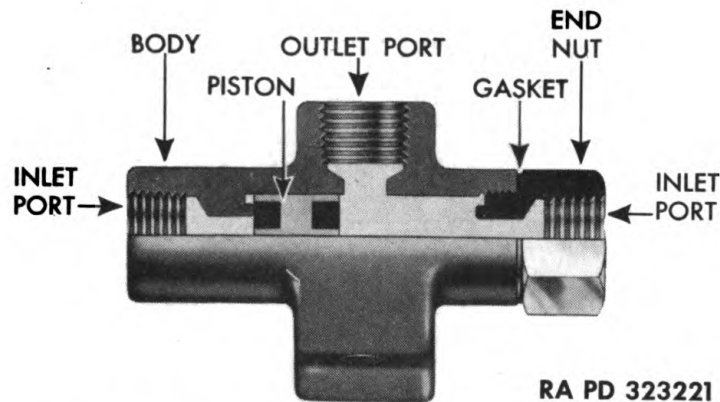

Figure 227 — Cross-section of Two-way Valve
a. Description (fig. 227). The two-way valve is mounted to the inside of the right driver's seat support directly below the right floor plate. It is incorporated in the towed-load air brake system so that it may transfer applied air pressure from either of two sources into one outlet. The operation is performed automatically within the valve. The valve consists of a body with an integral mounting bracket. Directly opposite the bracket, and in the center of the body, is the outlet port. An inlet port is located at each end of the body, one being removable (called an "end nut"). The end nut is a means of assembling and disassembling the valve for the purpose of inspecting piston and seats.
b. Operation (fig. 227). The action of the valve is controlled by a piston which moves freely within the body. Applied air pressure to either inlet port forces the piston to the opposite port, sealing it, and permitting the air to be discharged through the outlet port. The valve functions when the tractor with towed load is to be moved by another tractor because of loss of motive power. The towing tractor has its rear air line service coupler connected to the front air line service coupler of the disabled tractor. The applied air pressure of the towing tractor is bypassed through the disabled tractor to the towed-load brake system by the two-way valve. The controls of the disabled tractor, being in their normal off position, would allow the applied air pressure to escape through their exhaust ports, if the two-way valve were not used to bypass these controls.